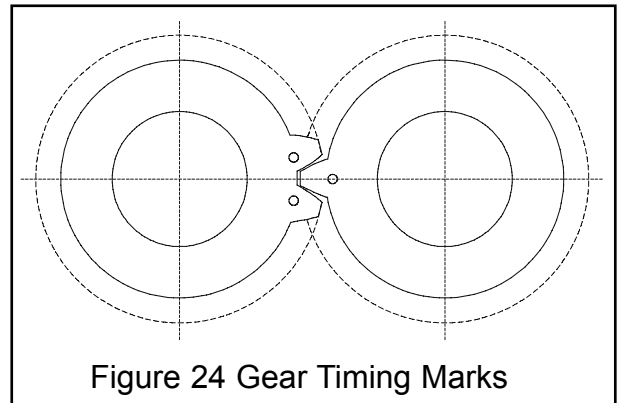

Figure 24 Gear Timing Marks
- g) Repeat c) to f) for drive shaft. Note: when fitting the second gear, align gear timing marks. (See figure 24).
**DO NOT fit gear (6) on LH32 and LH34 models.**
Before carrying out instruction i) fit the gear drive keys (28), gears (6), tab washers (7) and gear nuts (8). Ensure that the timing marks (see fig 24) are aligned. Tighten the gear nuts to the torque shown on the Performance Data Sheet. Finally, bend over the tab washers to lock the gear nut in place.
- i) Front oil seals (23) should be pressed in, until they are flush with the front face of the bearing housing (1). Take care not to curl or damage the lip or displace the gaiter spring on the shaft. Ensure they are square to the shaft (not tilted).
- j) Assemble gear cover (11) to bearing housing (1), using new gasket (9), new rear oil seals (20) and gearcover screw seals (19). Be careful not to damage the lip seal on the drive shaft keyway.
- k) Ensure vent plug (12) is at highest point, the sight glass (13) on the side of the cover and the oil drain outlet is at the lowest point and sealed with a suitable thread sealant.
- m) Fill gearbox with the correct grade and quantity of oil. (see section 3) This should be to the centre of the sight glass (13).